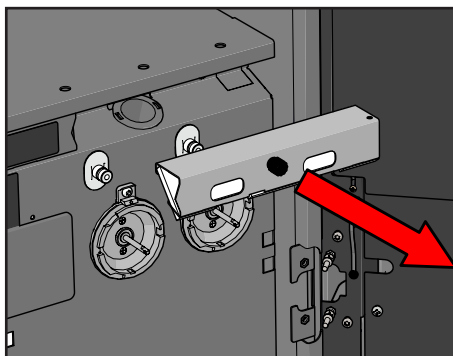

Figure 45.
15. Remove the suction cups from the machine (see Figure 45). Clean the suction box and replace the filter if necessary, see 7.8.